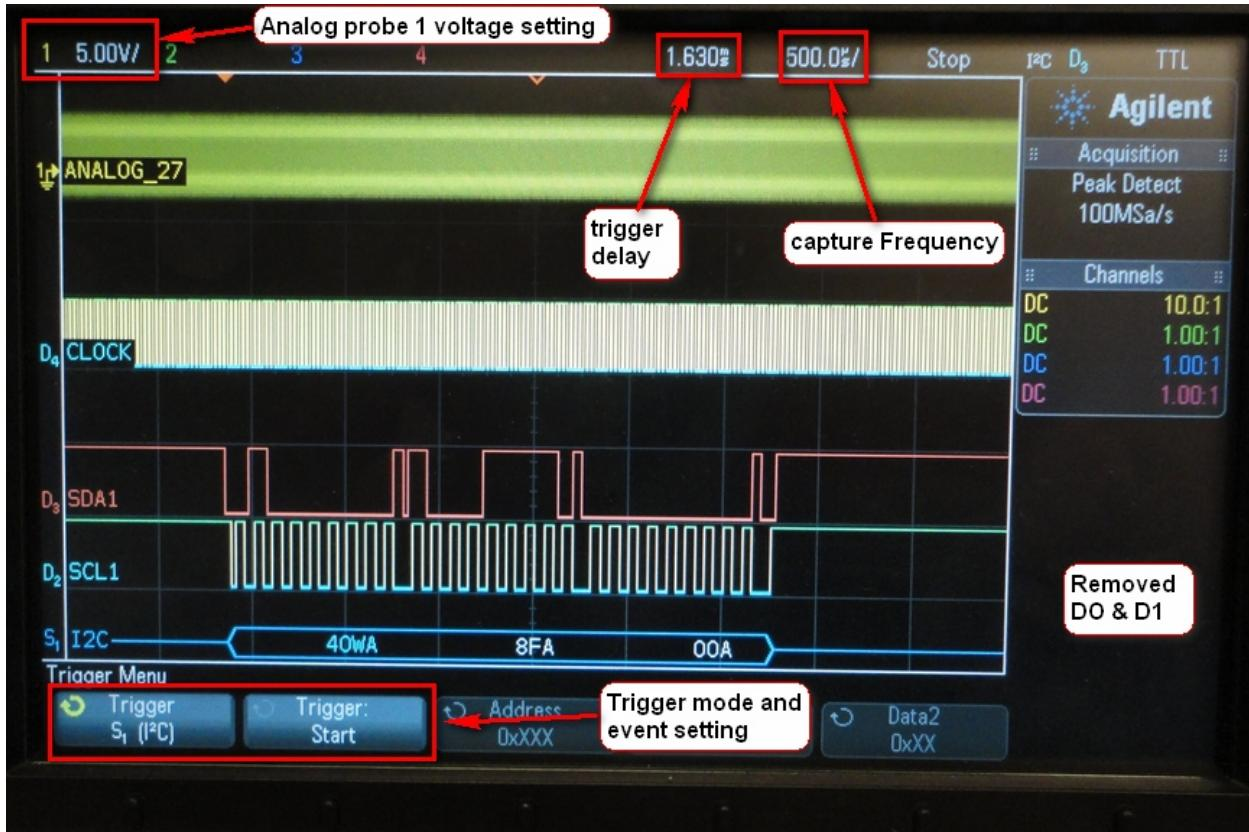

Figure 21 – Analog probe 1 input added and D0 and D1 removed.
- Move **D2** (SCL1), **D3** (SDA1) and **D4** (CLOCK) down on the scope. See **Figure 21**.
- Select analog probe **1** (Yellow channel) and move it up to the top of the scope. See **Figure 21**.
- Toggle **switch 2** (GO) from a down to an up position.
The result should look like **Figure 21**. **Analog_27** represents the 27 MHz clock. By zooming in and using the cursors you can measure the frequency to verify if this is true or not. This is optional.